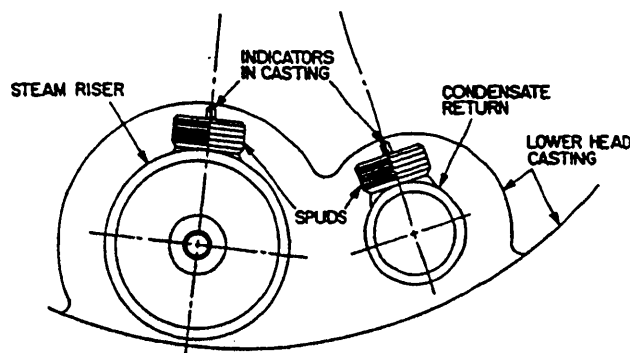

Figure HE-104-12 -- Alignment of Steam Riser and Condensate Return
- R6. If either the Steam riser (59) or Condensate return (60) must be replaced:
- b. Turn the riser and/or return in leak tight, but carefully line up the spud centers with the raised indicators on the bosses in the bottom head casting as shown in Figure HE-104-12.